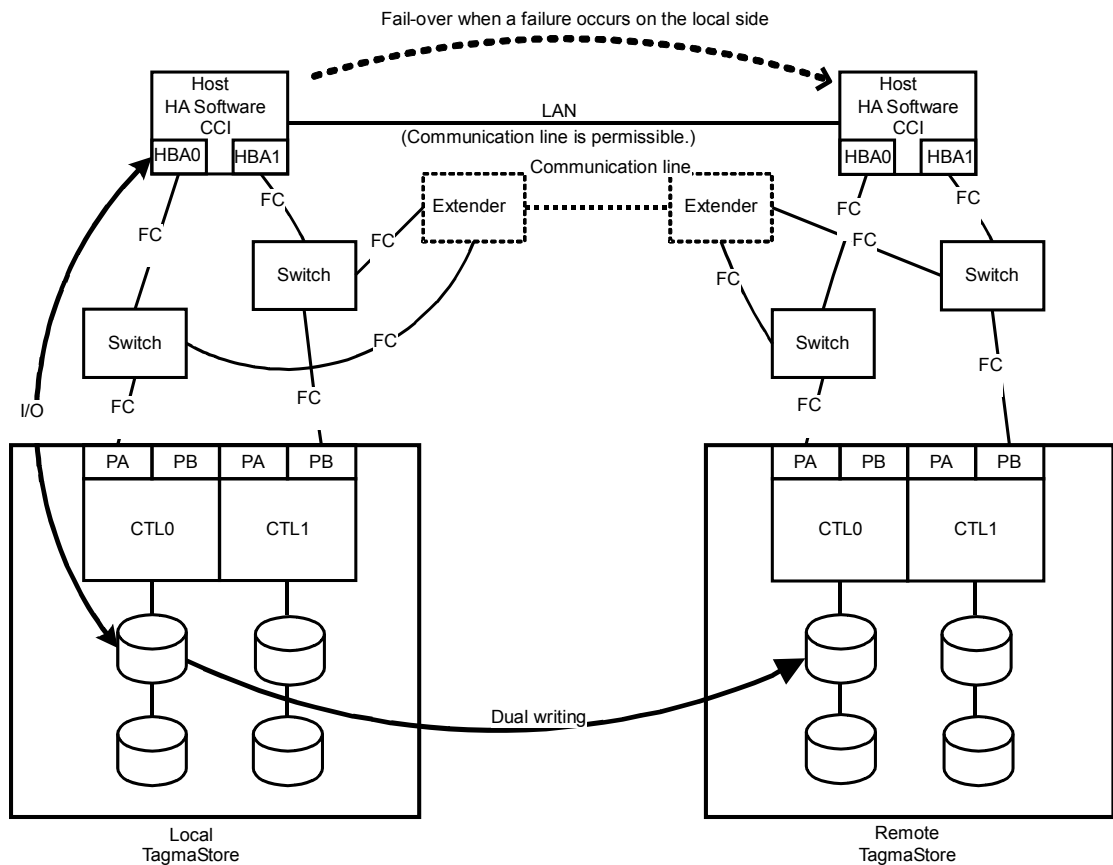

Figure 8.1 Configuration for Failover
8.1.1 Automatic Switching by High Availability (HA) Software
By installing the High Availability (HA) Software on both the local side and the remote side, when a failure occurs in the host or in the subsystem, although the input and output operation from the host on the local side cannot be executed, operation will continue by automatically switching over to the stand-by host on the remote side. A configuration is shown below (see Figure 8.1).